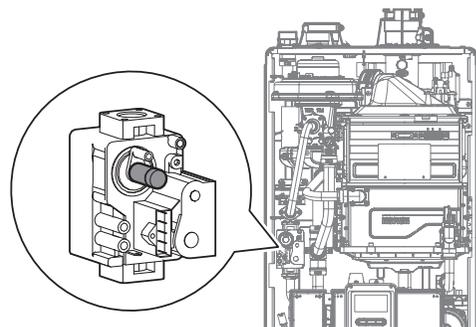

Figure 10. Set Screw Location
- c. Activate multiple zones and set the boiler to operate at 1-stage MIN mode (refer to “11.6.7 Setting the Special Operation Modes” on page 120). Measure the offset value at low fire and compare it to the values in Table 3. If the offset value is out of range, the gas valve set screw will need to be adjusted. If adjustment is necessary, locate the set screw as shown in Figure 10. Using a ⁵/₃₂ in or 4mm Allen wrench, turn the set screw no more than 1/4 turn clockwise to raise or counterclockwise to lower the offset value.